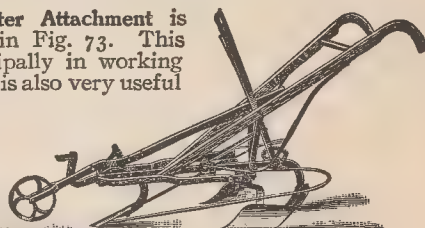

Fig. 73
**The Vine Lifter Attachment** is applied as shown in Fig. 73. This tool is used principally in working sweet potatoes, but is also very useful among all vine and bush crops. **Price, attachment only.**